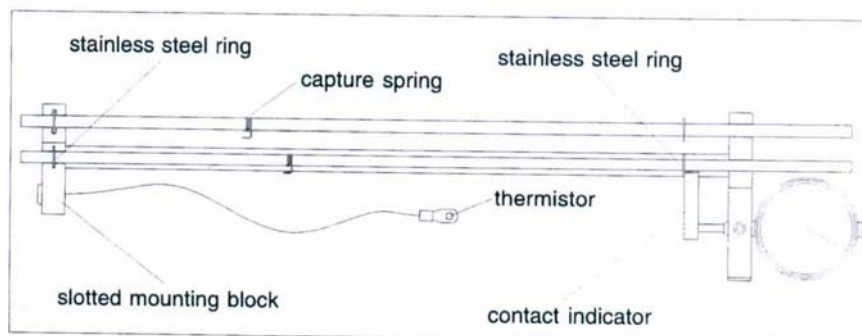

Figure 2 Equipment Setup (Top View)
- ② Mount the copper tube in the expansion base as shown in Figure 2. The stainless steel ring on the tube fits into the slot on the slotted mounting block and the bracket on the tube presses against the spring arm of the dial gauge.
- ③ Use the capture spring on the expansion tube to attach the thermistor lug somewhere in the middle of the copper tube. The lug will be aligned with the axis of the tube, as shown in Figure 2, so there is maximum contact between the lug and the tube.